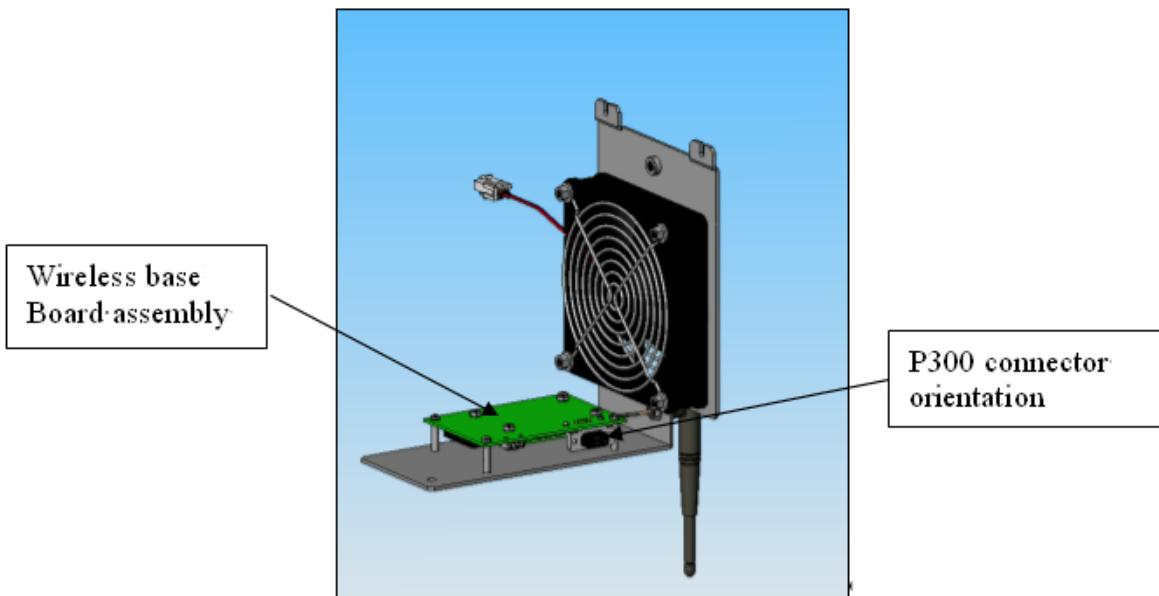

Figure 4: Base Board Assembly with Posts
8. Place the wireless board assembly on the four fan bracket standoffs. Note the correct orientation of the wireless base board P300 connector (Figure 4: Base Board Assembly with Posts).
12. Connect the RS-232 cable end labeled J300-1 to P300 on the wireless board using its two slotted screws (Figure 4: Base Board Assembly with Posts).